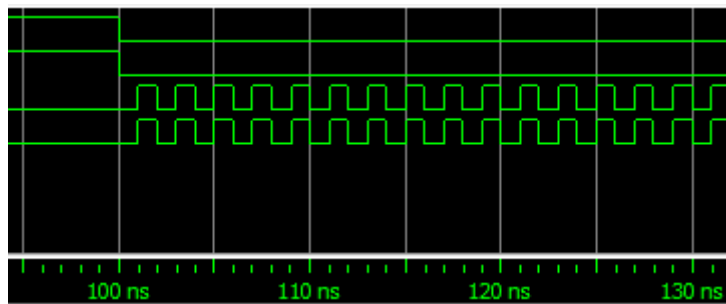

Figure 8.4: Magnified view of invalid output of SR latch due to “not allowed” state
2. From 100 to 200 ns, we have input $S = 0$ and $R = 0$, for which the output is not constant, rather oscillates between 1 and 0 after every 1 ns time interval. For $S = 0$ and $R = 0$, the output should ideally “latch”, which means that the previous output should stay. However, as the previous output is of the “not allowed” state, thus invalid, it cannot be latched. Figure 8.4 shows a magnified snippet of the output in this case.